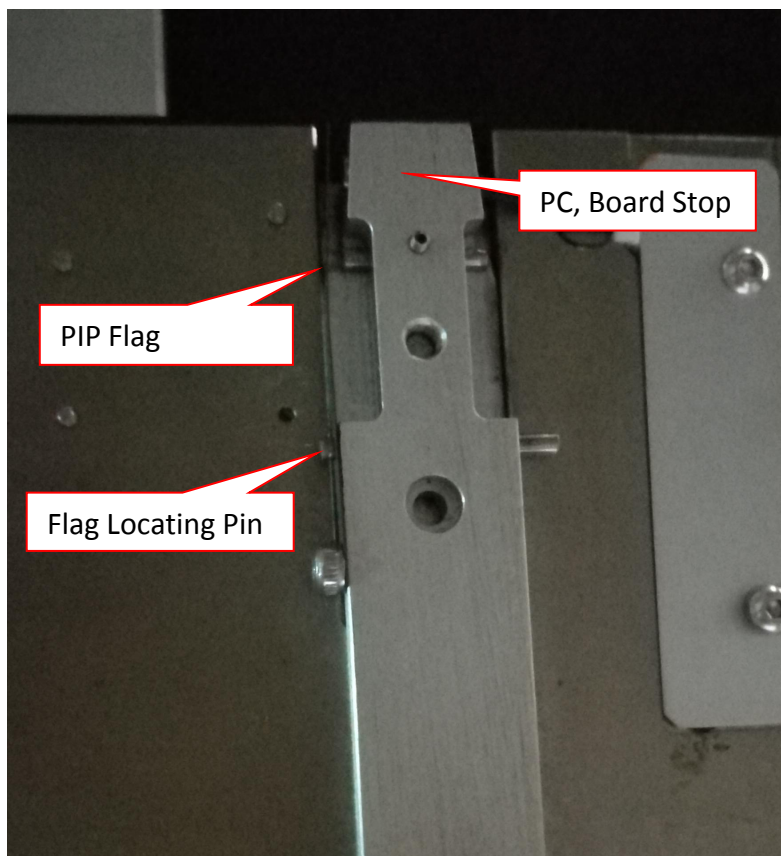

Figure 10 PIP Flag Assembly
6. Assemble PIP Flag to Flag Locating Pin as shown in Figure 10.